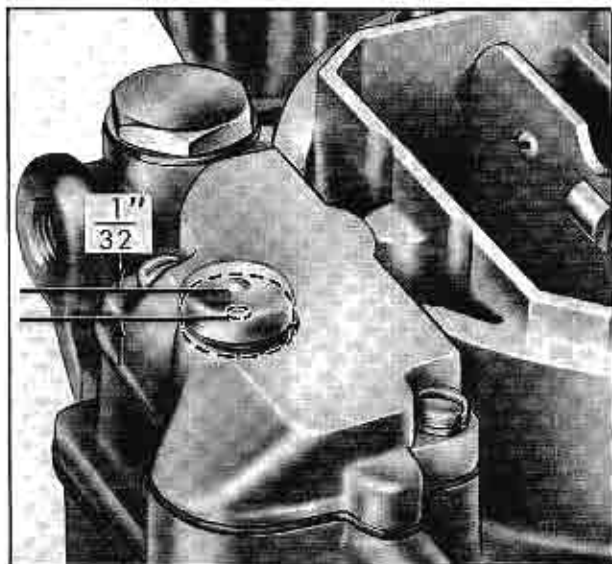

Fig. 12-33 Idle Vent Opening
1. Check vent valve opening by measuring the difference in height (at the rivet head on valve) with the primary throttle valve in the open position and then in the closed (hot idle) position. Be sure choke is off. This should be 1/32 inch. Fig. 12-33.